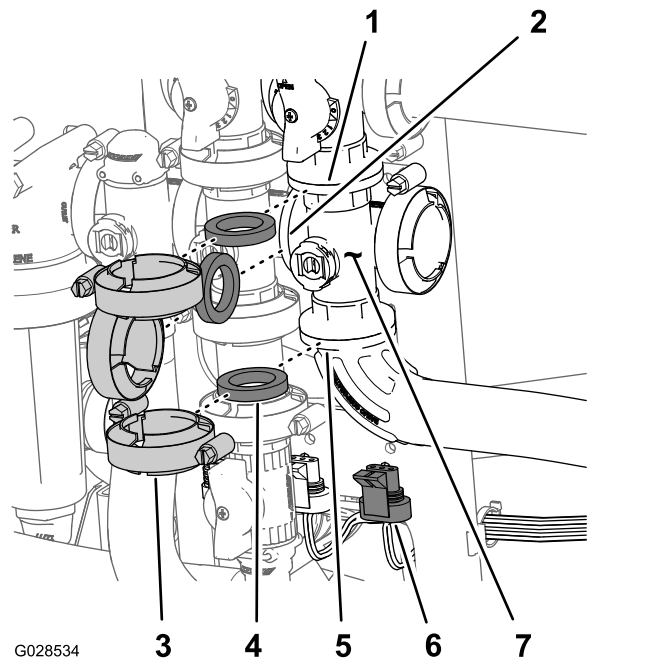

Figure 92
1. Remove clamps and gaskets that secure the manifold for the master boom valve (Figure 92) to the master boom bypass valve, agitation valve, and 90° flanged elbow (at the end of the hose for the flow meter).